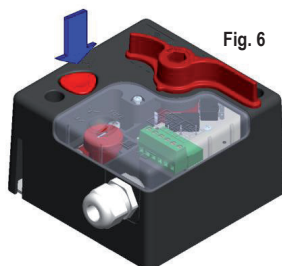

Fig. 6
- Turn the button highlighted in Figure 6
- Operate the test button shown in fig.6